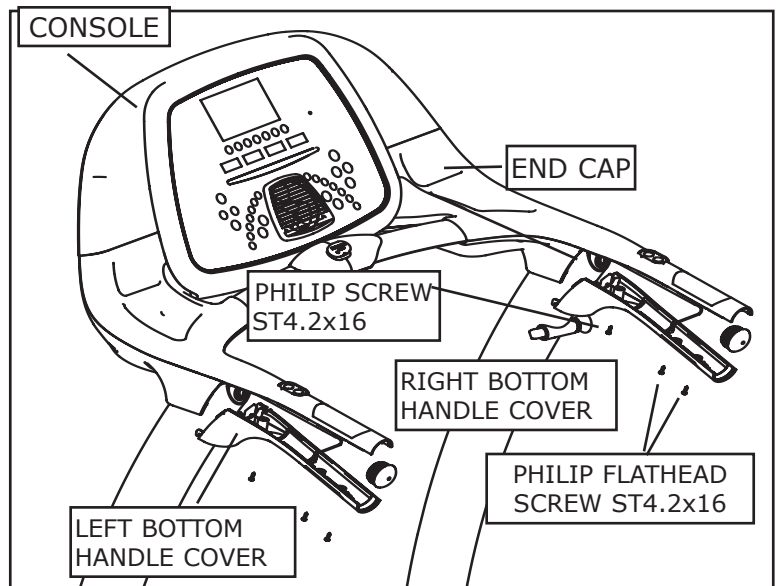

Figure 5: Left and Right Bottom Handle Cover Installation
7. Position the Left and Right Bottom Handle Covers to underside of handle assembly, then connect the EKG Harness Wires to the Left and Right Bottom Handle Pulse Plates as shown in Figure 5. Tighten into place using Philip Screw ST4.2X16 (Qty. 2) and Philip Flathead Screw 4.2*16 (Qty 4). Next, install the End Caps to the handle assembly.